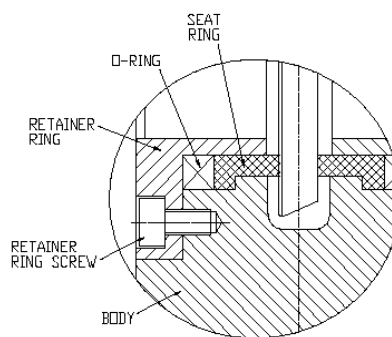

Figure 7
5. Place the new seat rings over the O-rings on the retainers (The retaining lip on the seat should be placed against the O-ring) as shown in Figure 7.